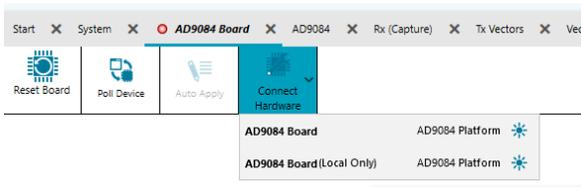

Figure 14. ACE Connect Hardware
- ▶ The hardware must be reconnected in the **ACE Software** within the **Connect Hardware** drop-down menu (see Figure 14). Do not use the **AD9084 Board (Local Only)** setting because it is in hardware emulation mode where the **ACE Software** does not communicate with the actual hardware. Use the **AD9084 Board** setting instead.